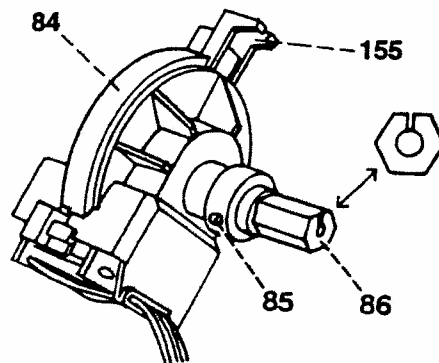

Fig. 51a
- Loosen fixing collar screw 85 of synchronizer 84 (fig. 51a).
- Insert new synchronizer 84. Make sure that the housing rib is between both guide clamps 155 (fig. 51a).